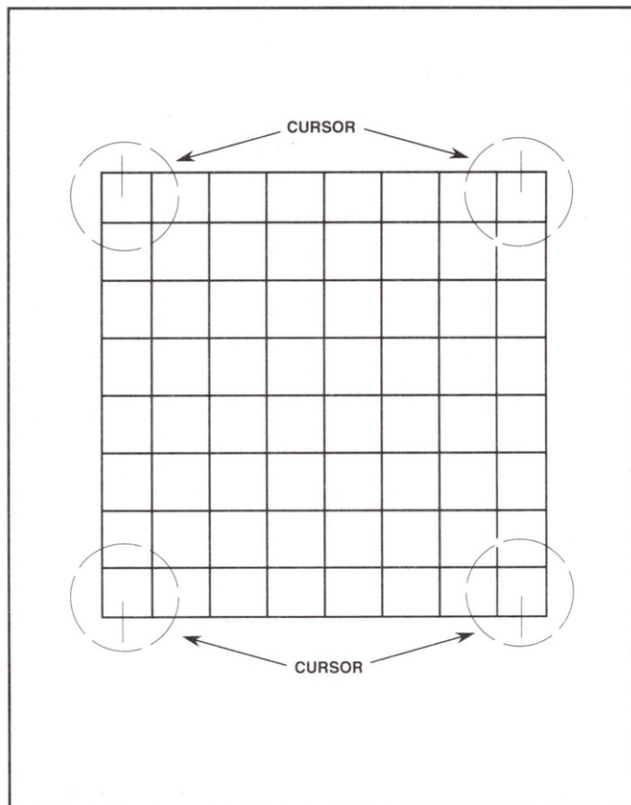

Figure 2
3. In the ZONE adjustment mode, position the cursor at the four corners of the cross-hatch pattern. (See Figure 2.) Move the line up and down using the arrow keys on the commander to find the maximum and minimum vertical positions. Adjust the line to the midpoint of these two positions.